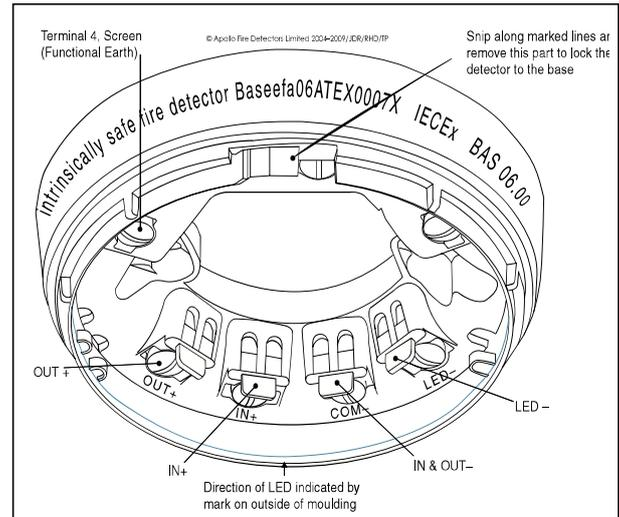

Fig 1 Orbis IS base terminals
1. Activate the locking mechanism if the detector is to be locked into the base. To do this, remove the small portion of plastic shown in Fig 1 with side cutters or similar tool.
3. **Fig 1** shows the wiring terminals. The terminal marked '4' on the base is provided for connecting the screen or functional earth.